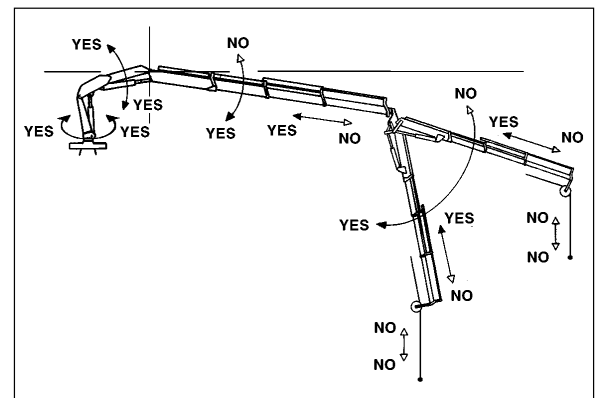

fig. 20a
**Crane with activated limiting device by the intervention of the crane or the hydraulic jib (overload condition) and with outer boom of the crane under the horizontal line fig. 20a**